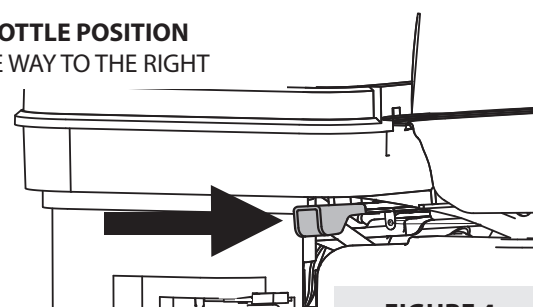

FIGURE 4
1. Move the throttle lever to the **LOW THROTTLE** position and allow the engine to run at low speeds for 1-2 minutes. *(This is not necessary on models with throttle fixed at full throttle position.)* **SEE FIGURE 4.**